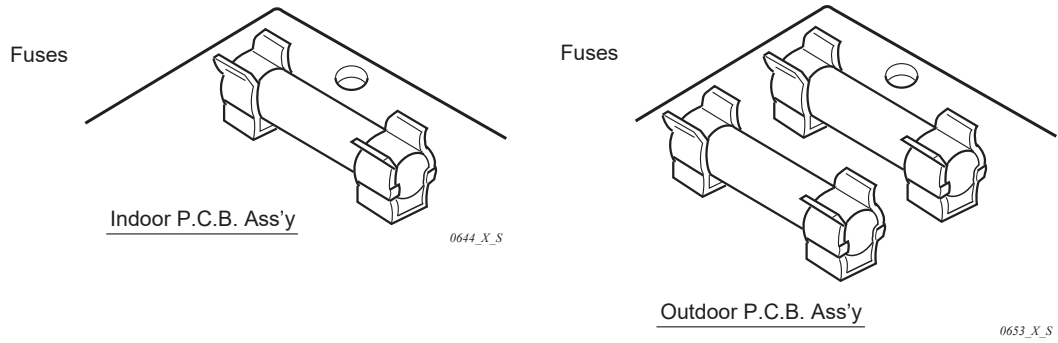

Fig. 46
- Remove the P.C.B. Ass'y from the electrical component box. Then pull out the fuse from the P.C.B. Ass'y. (Fig. 46)